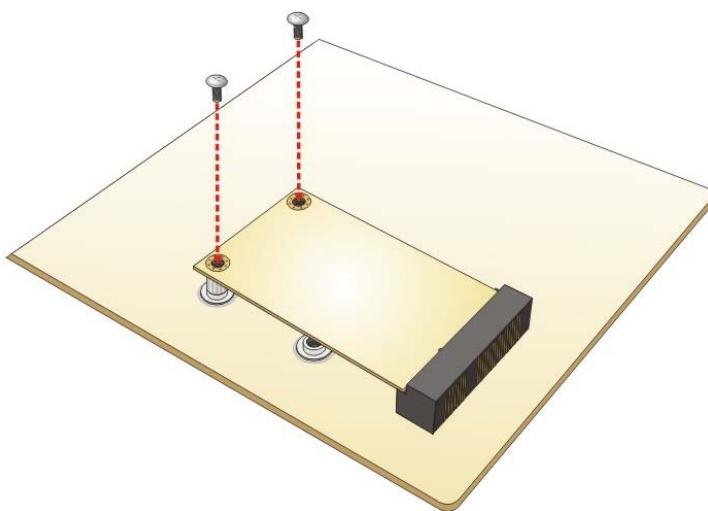

Figure 3-10: Securing the PCIe Mini Card
Step 5: Secure the PCIe Mini card. Secure the PCIe Mini card with the retention screws previously removed (Figure 3-10).